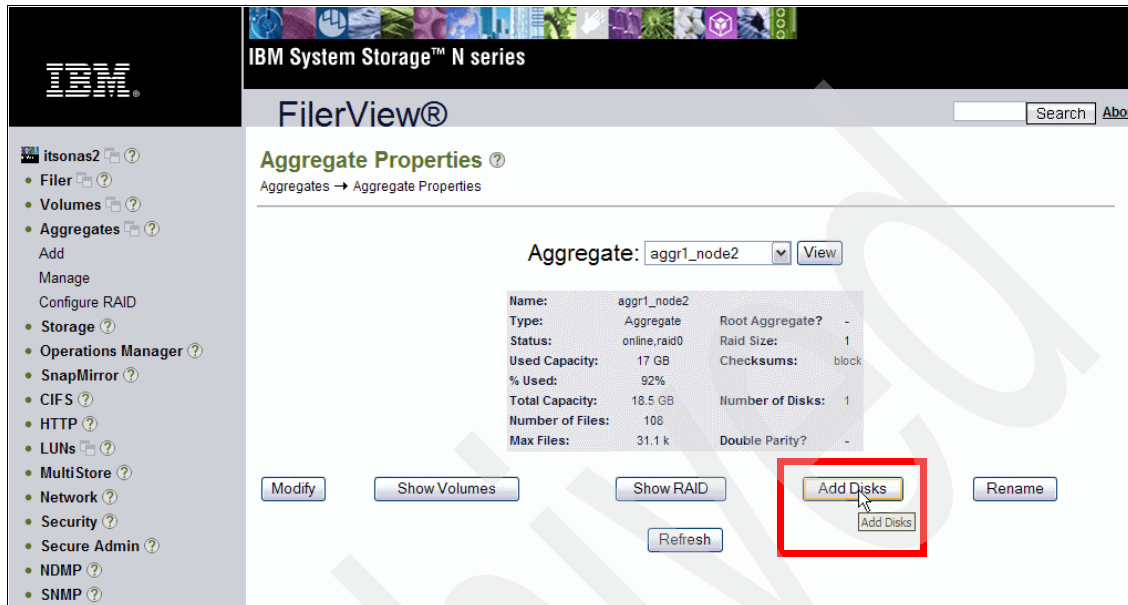

Figure 9-2 Adding disks to an aggregate.
2. As shown in Figure 9-2, click **Add Disks**.